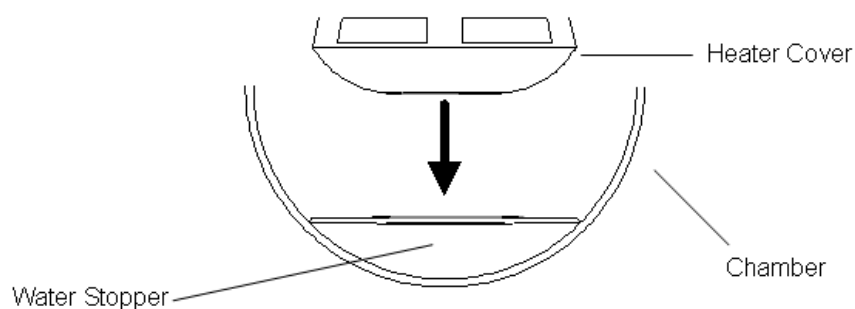

Figure 4
C. Install the heater cover to the chamber as Figure 4. (standard accessory).